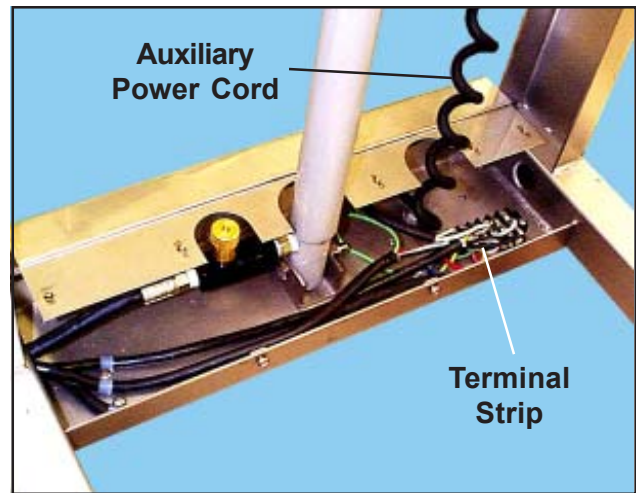

Figure 57. Auxiliary Power Cord and Terminal Strip
9. Use a small, flat-blade screwdriver to disconnect the three auxiliary power cord wires (black, white, green) from the terminal strip (Figure 57).